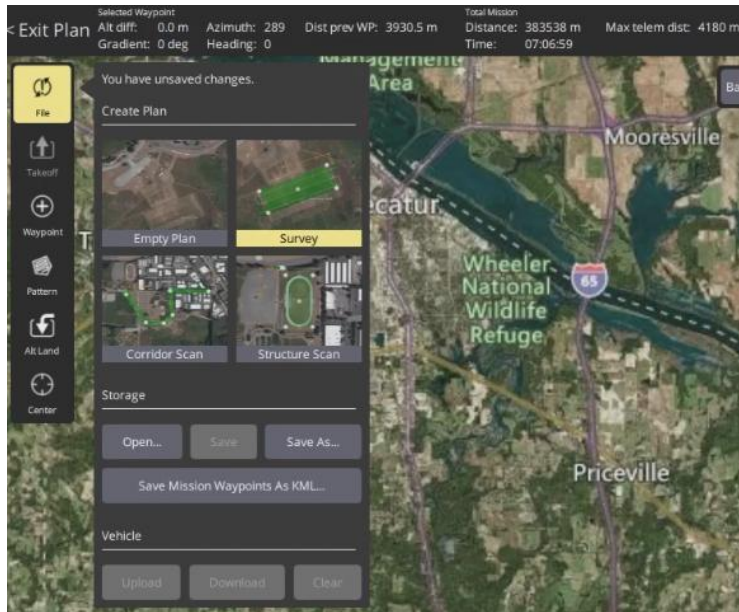

Figure 32: QGroundControl - Survey
8. Choose Flight Route on the home screen and then tap the + Icon on the top right (Figure 32)